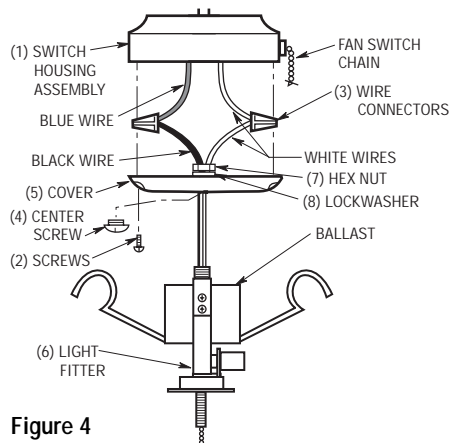

Figure 4
- Remove the cover(5) from the fan switch housing(1) by removing the two outer screws(2). (See Figure 4).
- Remove the center screw(4) from the cover(5). Insert the black and white wires from the light fitter(6) thru the hole and thread the switch housing cover tightly onto the light fitter.
- Attach the cover/light fitter(5)(6) to the switch assembly housing(1) using the two screws(2) that were removed in Step 2) (Figure 4.)
- Position the bulb retainer between the fitter bracket and the bottom of the ballast (Figure 4). Carefully snap the retainer into the groove in the ballast. Make sure the retainer is securely installed in the groove.